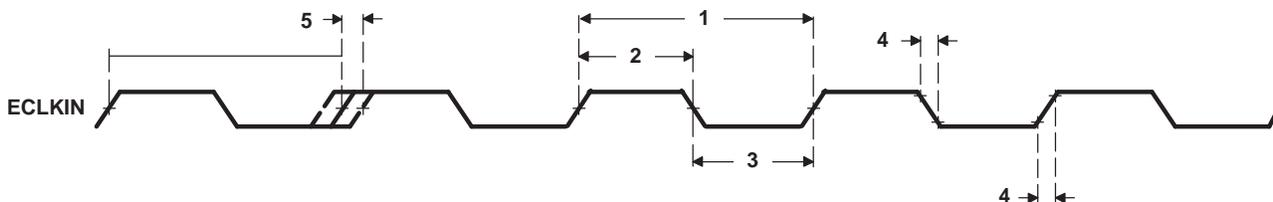

Figure 5-8. ECLKIN Timing for EMIFA and EMIFB
5.1.4 Timing Requirements ECLKIN for EMIFA and EMIFB (1) (2) (3) (see Figure 5-8)